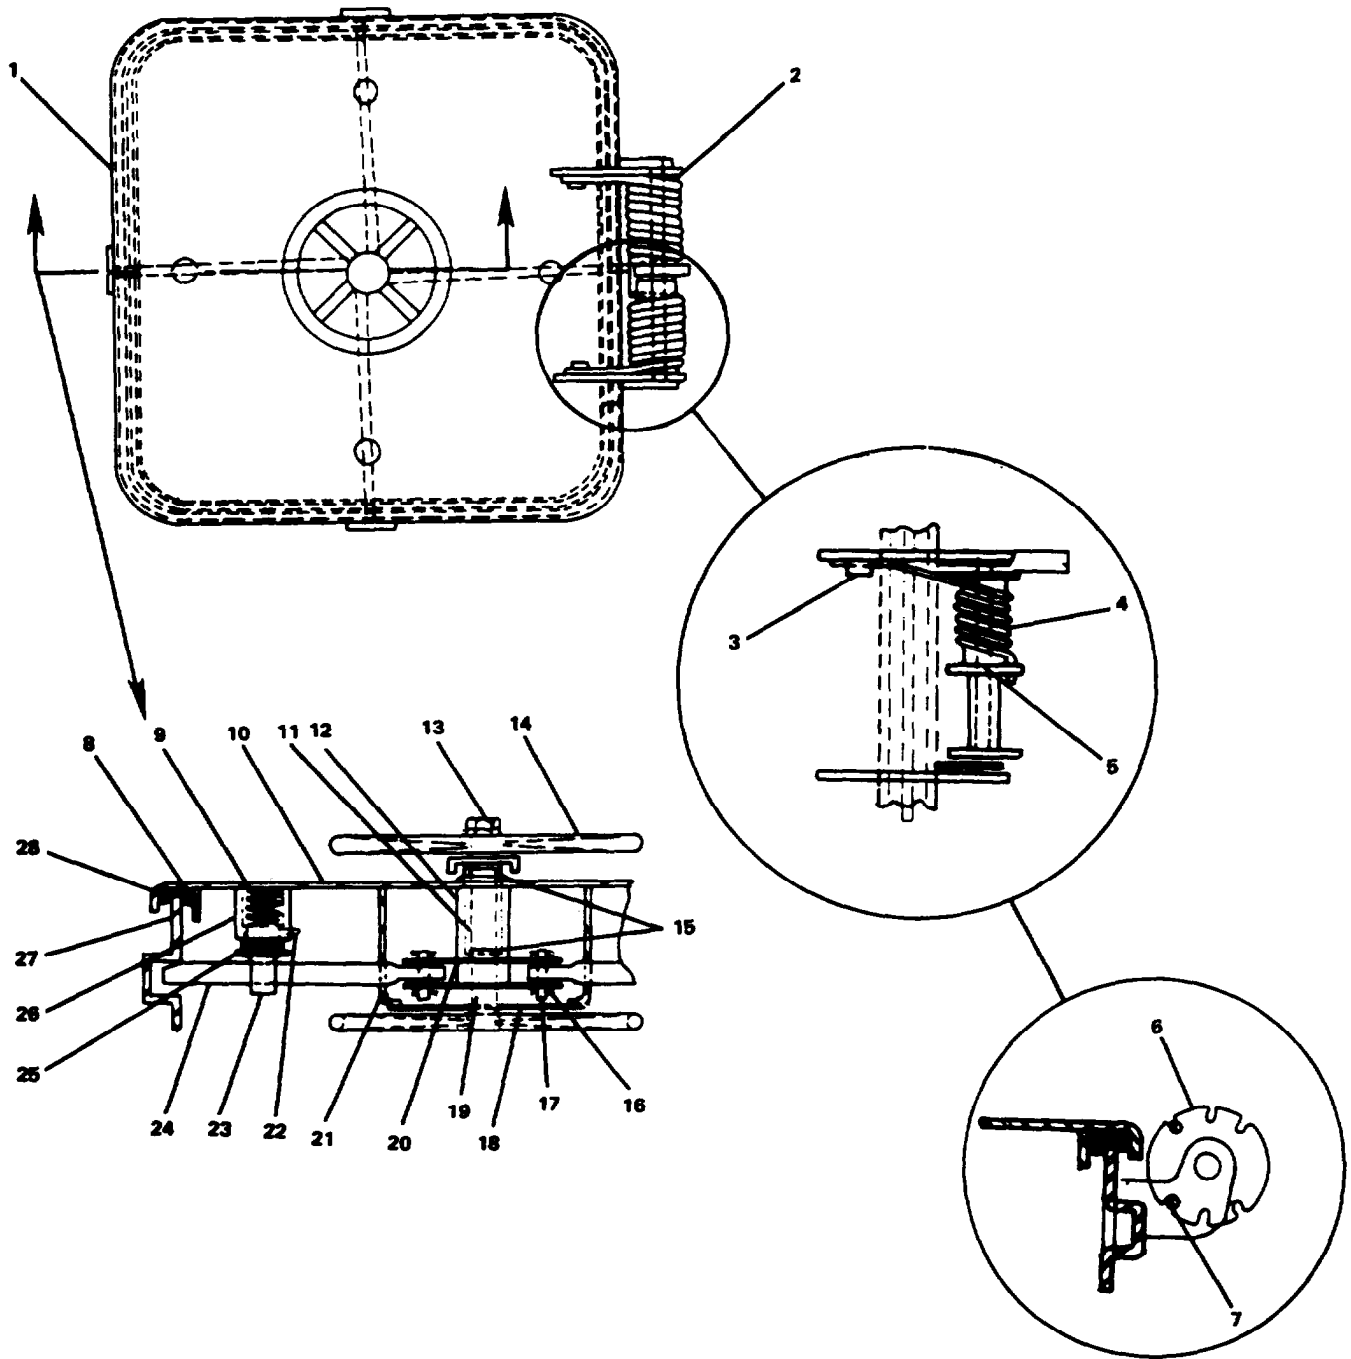

FIGURE 2-179. Repair Watertight Hatch, Quick Action.
- a. Remove helical compression spring (4, FIGURE 2-179) from hinge blade (2).
- b. Remove stop (3) from hatch (1).